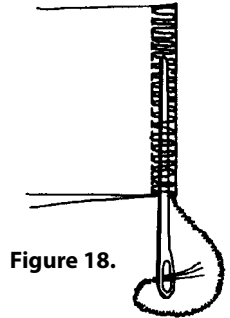

Figure 18.
- **Hiding.** Hide the chain by threading it on a large-eye or tapestry needle. Slide the needle back at least one-half inch into the previous stitching (Figure 18). Clip any remaining thread ends.